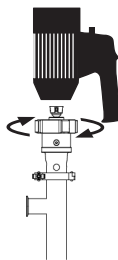
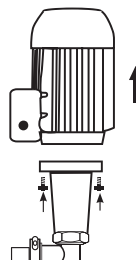

Figure 3
Figure 4
4. Remove motor from pump tube. For models SP-850SR: loosen Hex Nut in clockwise rotation (see Figure 3). For models SP-850DD: loosen (4) bolts that attach the pump to the motor (see Figure 4).
- Reattach motor and resume operation. (SP-850SR: see Figure 3, page 4); (SP-850DD: see Figure 4, page 4).